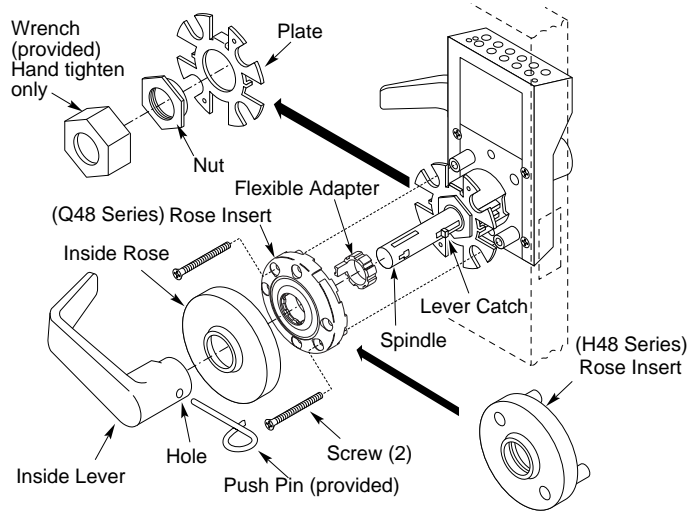

Figure 3 OMNILOCK System with ARROW™ Lockset
Step 4 For ARROW™ Locks; slide the Inside Lever from the Spindle (Figure 3).